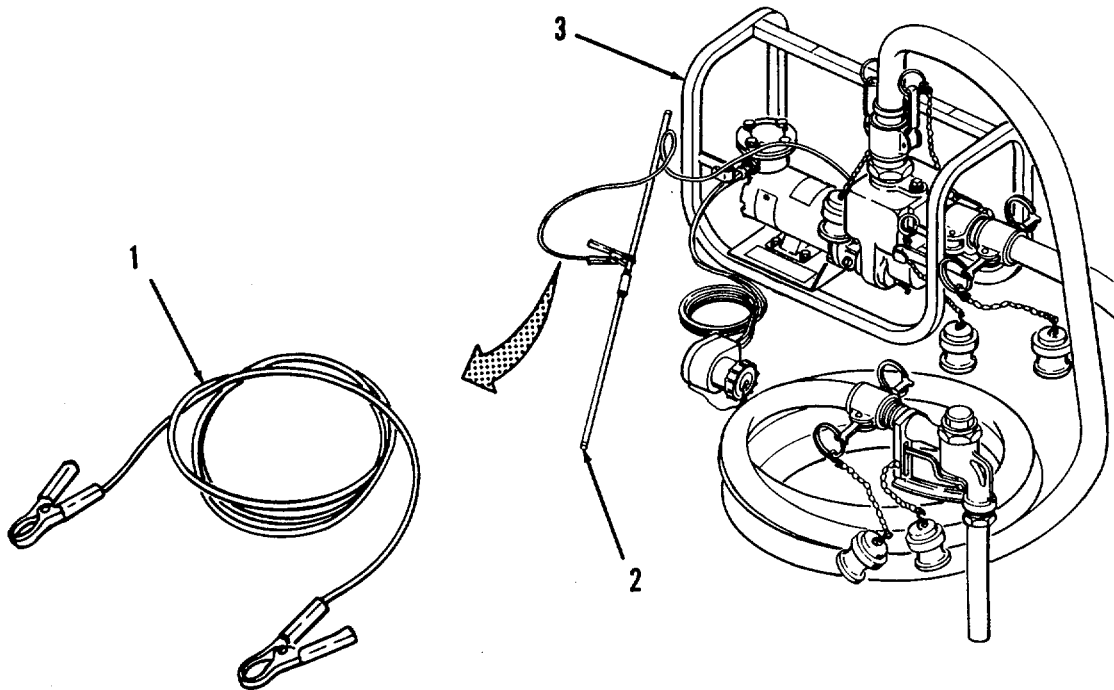

Figure 3-3. Ground Cable Replacement.
- a. Removal (Refer to Figure 3-3). Remove ground cable assembly (1) from ground rod assembly (2) and from pump assembly (3).
- b. Replace. Install ground cable assembly (1) onto pump assembly (3) and onto ground rod assembly (2).